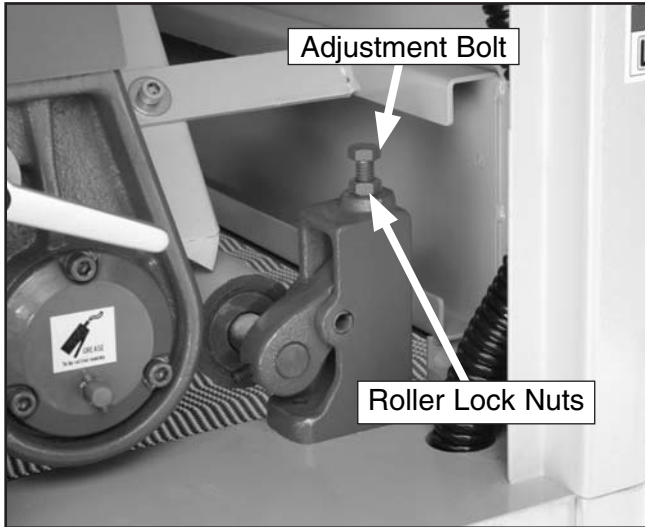

Figure 32. One pressure roller adjustment location.
- Loosen the roller lock nuts (**Figure 32**) on the infeed pressure roller. Turn the Adjustment Bolts (**Figure 32**) to lower the pressure roller until it just touches the board.